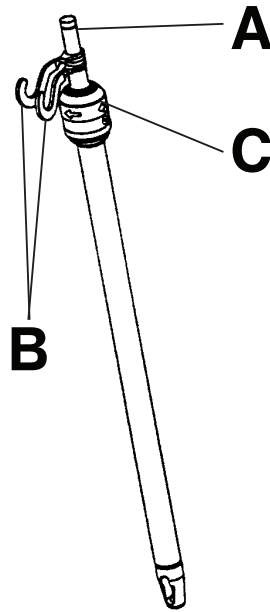

Figure 17 – HAVASU two-stage IV pole
2. To raise the height of the pole, pull up on the telescoping portion (A) of the pole until it locks into place at the fully raised position (Figure 17).
3. Rotate the IV hangers (B) to the desired position and hang the IV bags (Figure 17).
4. To lower the pole, turn the latch (C) clockwise until the telescoping portion (A) lowers into the bottom tube (Figure 17).